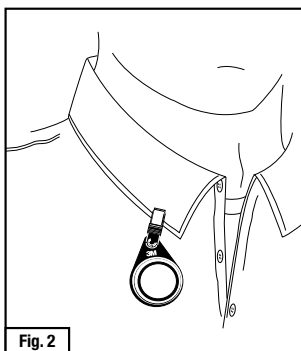

Fig. 2
4. Monitor can be used as an area or personal sampler. For personal sampler attach the monitor near employee breathing zone (Fig. 2). When used as an area monitor, hang it away from walls, corners, table tops, or other regions where the air movement in the room may be limited.